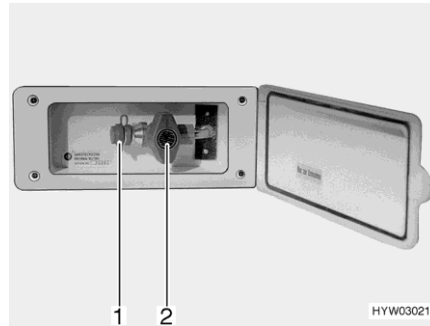

Fig. 64 External gas connection
- Connect the external gas device to the connection point (Fig. 64,1).
- Open the gas isolator tap (Fig. 64,2).